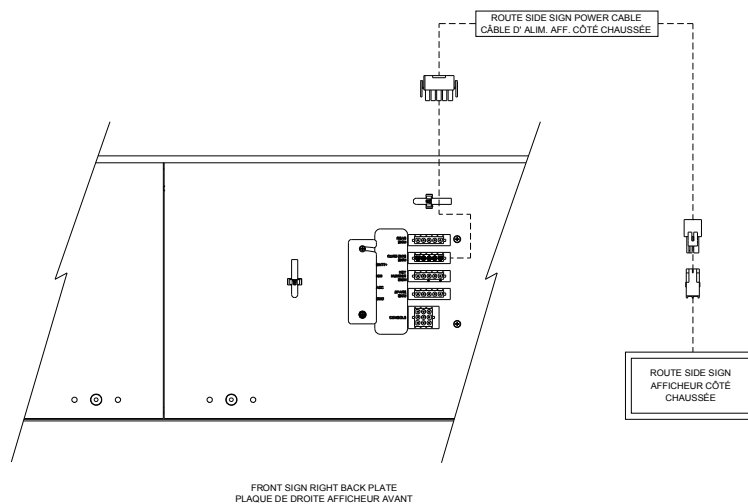

Figure 13: Route Side Sign Cable Connection
- Connect the power cable (5-pin connector) to the **ROUTE SIDE SIGN** connector (5-pin connector) located on the Back Plate of the Front Destination Sign (See Figure 13).